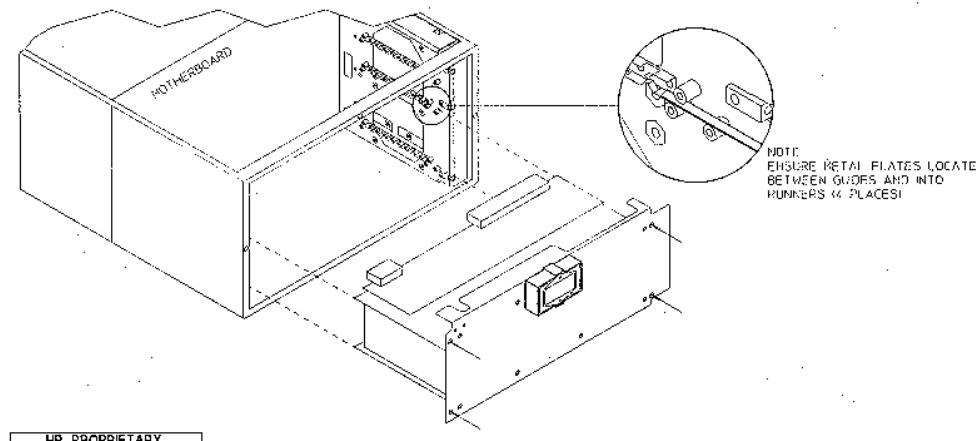

Figure 9
8. Install the new PSU module into the 70843A/B chassis, locating it as shown in FIG 9.